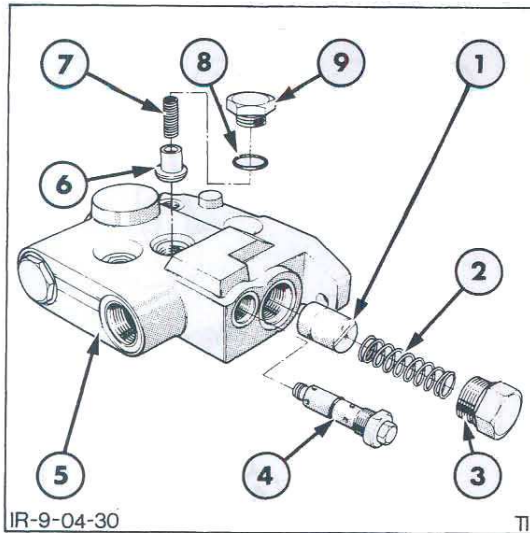

Figure 29
1. Using a 1" box spanner, remove the regenerative check valve plug, spring and valve, refer to Figure 29.
4. Remove the backpressure unload valve, refer to Figure 29.